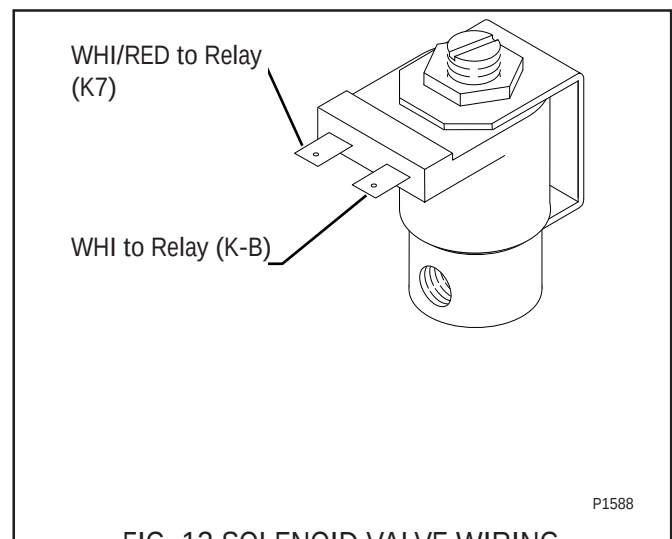

FIG. 13 SOLENOID VALVE WIRING
11. Refer to FIG. 13 when reconnecting the wires.